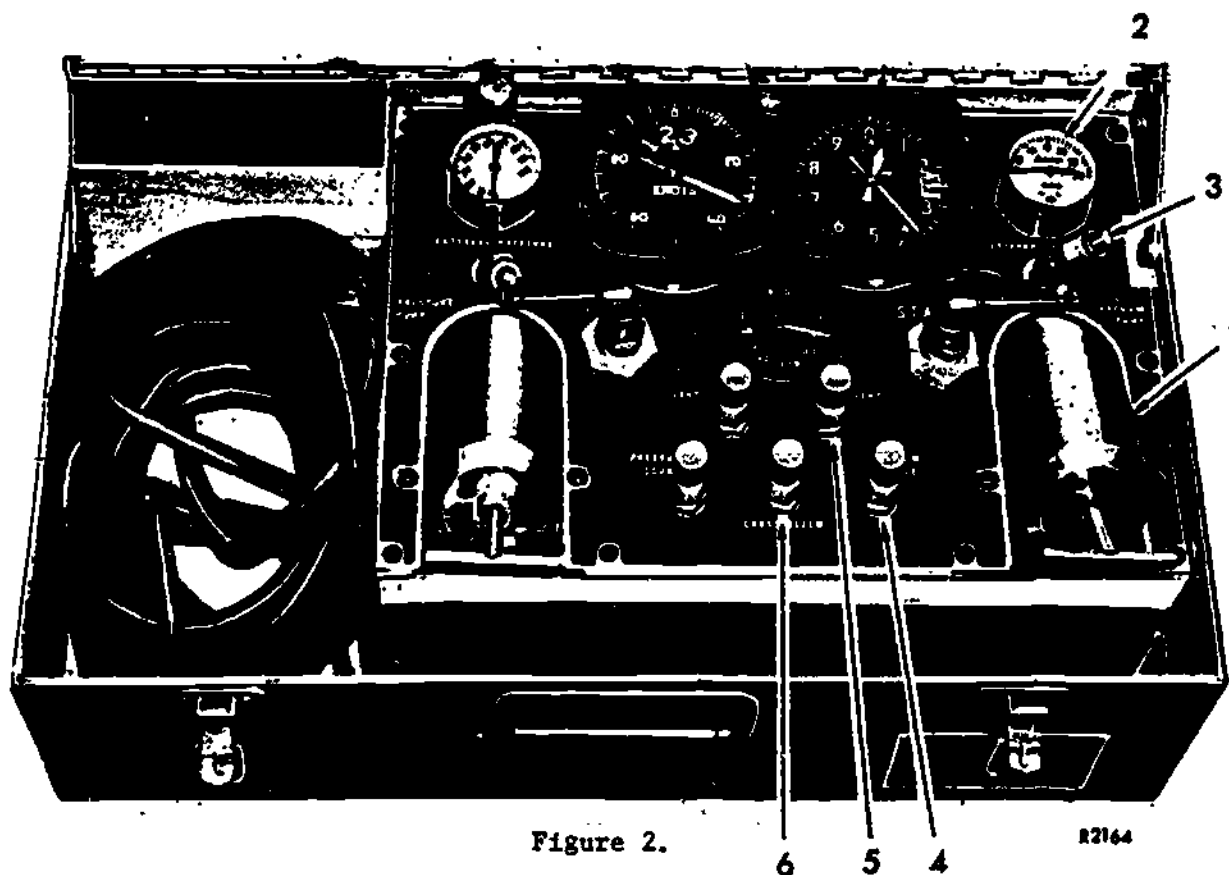

Figure 2.
The static side of the MB-1 pitot-static field tester is shown in figure 2. It consists of a vacuum pump (1), vacuum gage (2), external vacuum connection (3), vacuum source valve (4), vacuum vent valve (5), and a cross bleed valve (6) used in common with the pressure side of the tester.